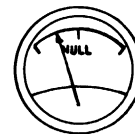

Figure 5.1A. Null Offset Indication
- f. With the L-C switch set at C, adjust Discriminator assembly potentiometer 1A2A2(R6) so that the meter pointer swings both sides of the letter "N" in NULL on the face of the meter. The left edge of the "N" represents the negative 100 millivolt offset required. Make the final setting at the left edge of the "N" as in figure 5.1A.